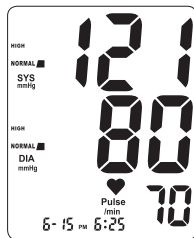

Fig. 5
8. When the measurement is complete, your blood pressure measurement and pulse will display simultaneously on the screen, Fig 5.
9. The Hypertension Indicator bars  will indicate your reading range in the left side of the display, Fig 5. See page 19 for a chart interpreting the Hypertension Indicator results.